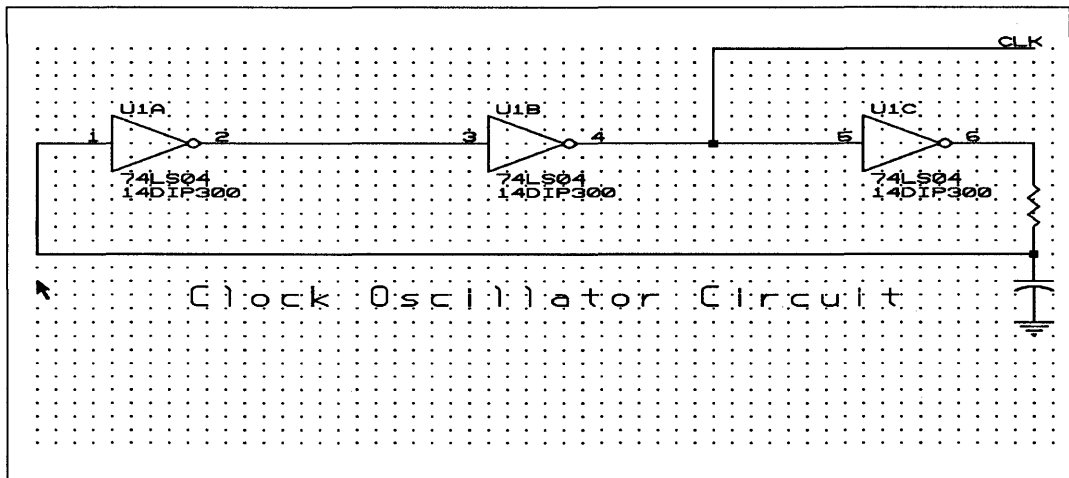

Figure 3-1. Clock oscillator circuit schematic.
Figure 3-1 shows the schematic diagram of the clock oscillator circuit you create in this chapter. Refer to this figure for placement and orientation information while capturing the clock oscillator schematic.
Compare your worksheet with figure 3-1. Your worksheet should contain the parts shown in figure 3-1, but not the wires.
6. To complete the wiring, place wires between the remaining components as shown in figure 3-1.
A junction is also required where the wire connects between the middle and righthand inverters and ends at a point above and to the right of the rightmost inverter and is labeled CLK in figure 3-1.